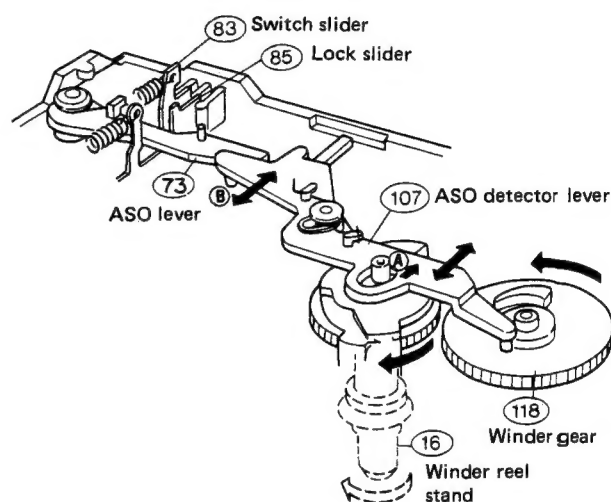

Fig. 15
As lock plate ⑧ moves, the operation slider is returned and each operation is stopped. When the operation lever is returned switch slider ⑧ is returned to turn off the power (Fig. 15).